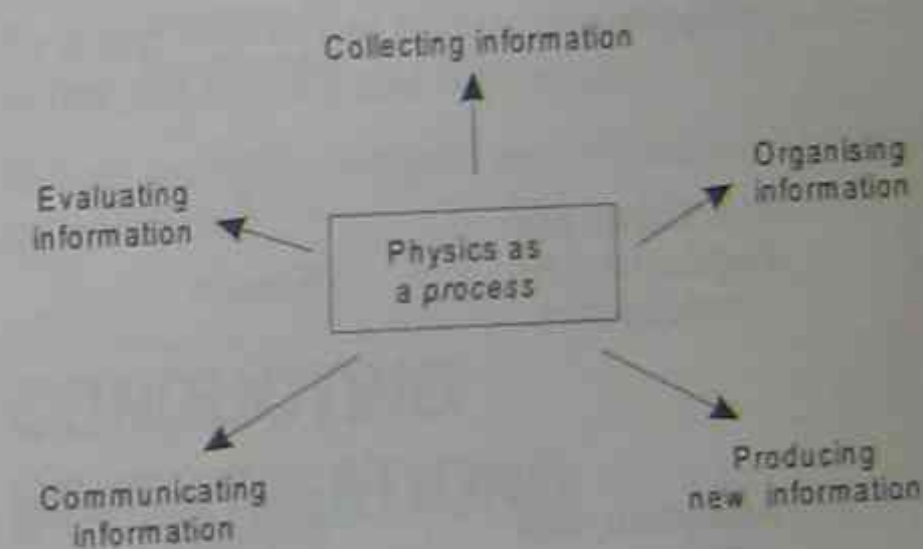

Figure A.1 Physics as a process
- 2 a set of *processes*² that can be used to systematically gain and refine information (Figure A.1).